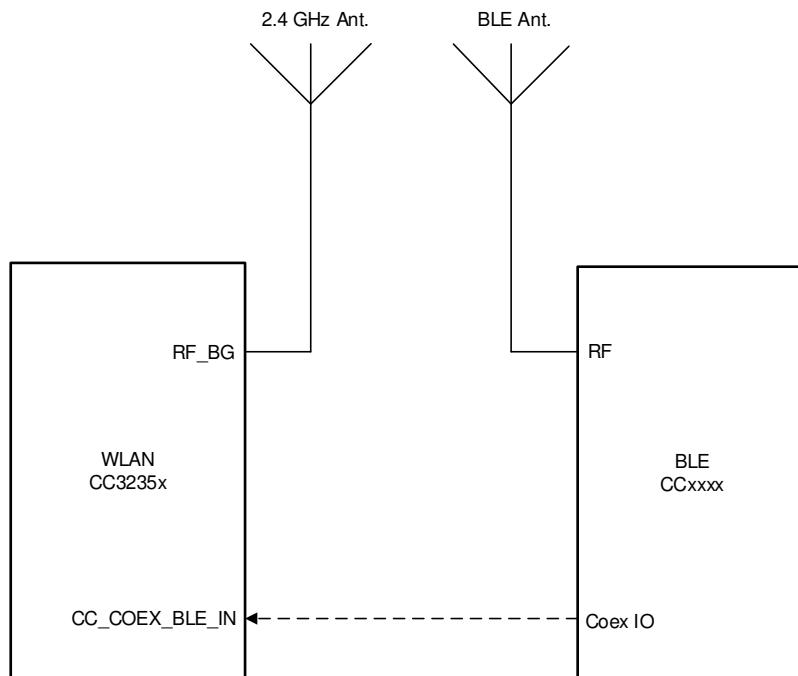

图 9-3. Dual-Antenna Coexistence Mode Block Diagram
- 2.4GHz Wi-Fi Band (see 图 9-3)
图 9-3 shows the dual antenna implementation of a complete Bluetooth® low energy and WLAN coexistence network with the WLAN operating on either a 2.4- or a 5GHz band. Note in this implementation no Coex switch is required and only a single GPIO from the BLE device to the CC3235x device is required.